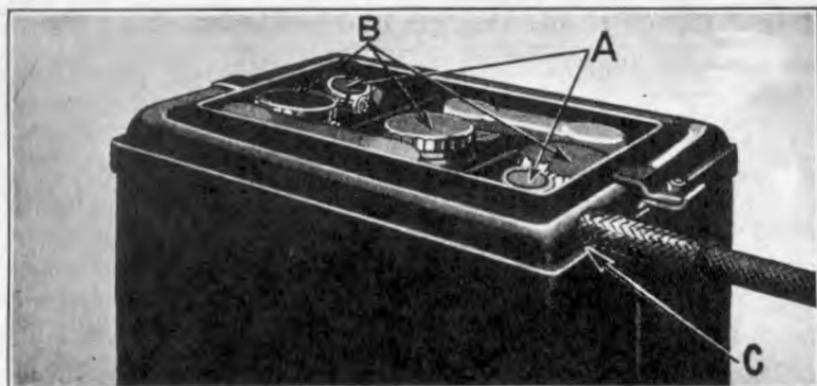

Fig. 523
- (a) See that the cable connections on the positive and negative posts (See "A" Fig. 523) are clean and tight and are covered with a coating of vaseline.